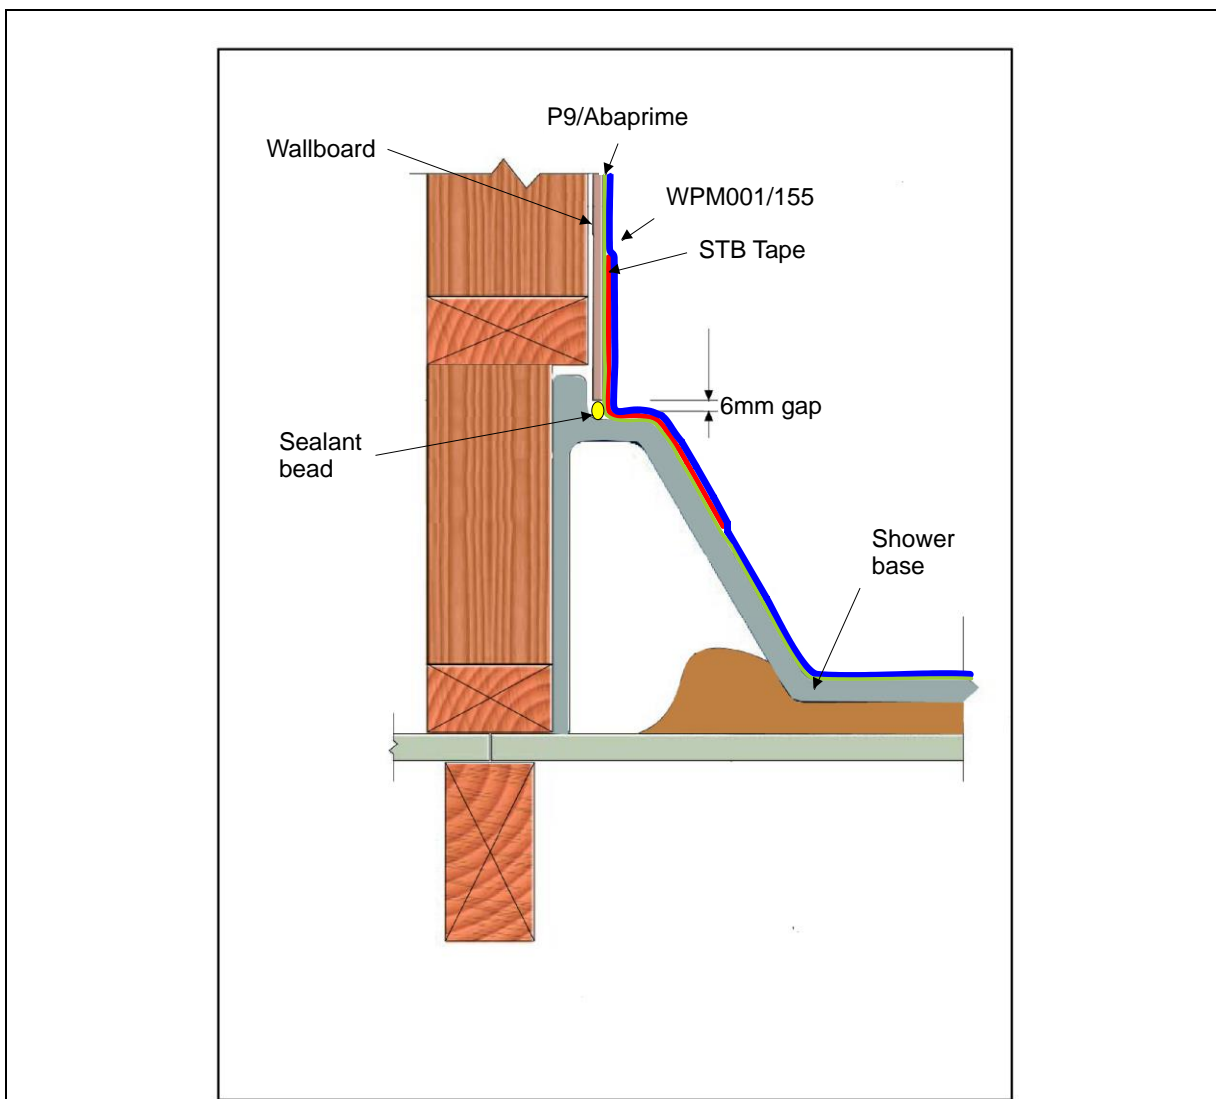

Figure 4. An example of a wall tray detail where fibre-cement sheets are placed onto a pre-formed shower base. Note STB tape over the sealant filled joint.
- 4) Where the membrane is to be used, apply flexible fillers in any gaps between building elements. For example between the base and wall sheets. The recommended materials are a combined foam rod for deeper gaps, and ARDEX ST silicone for the surface finish bond breaker. Shallower gaps can be filled with the silicone by itself. The maximum recommended gap height is 10mm, but sheet manufacturers tend to specify 6mm nominal. ARDEX STB tape is then applied over the joint equidistantly either side of the joint (see Figure 4 for an example).